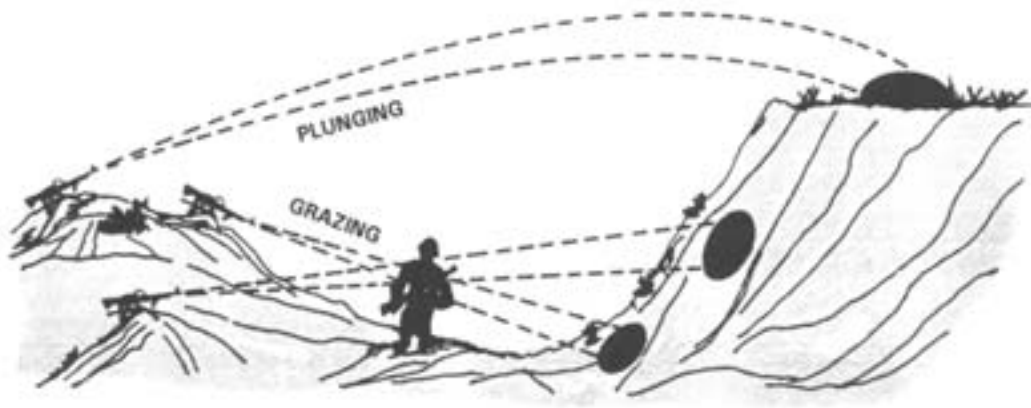

Figure 6-8. Plunging and Grazing Fire.
b. **Plunging Fire.** Fire in which the angle of fall of the rounds, with reference to the slope of the ground, is such that the danger space is practically confined to the beaten zone, and the length of the beaten zone is materially shortened. Plunging fire is obtained when firing from high ground into low ground, when firing from low ground into high ground, and when firing at long ranges. See figure 6-8.